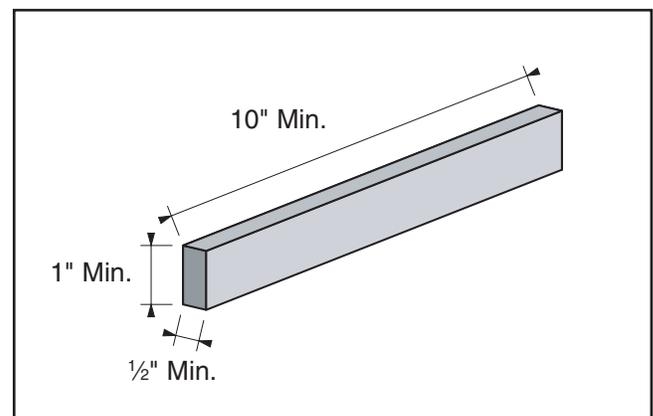

Figure 41. Minimum dimensions for edge jointing.
- **Make sure your workpiece exceeds the minimum dimension requirements (Figures 41 & 42) before edge jointing or surface planing, or it may break or kick back during the operation!**